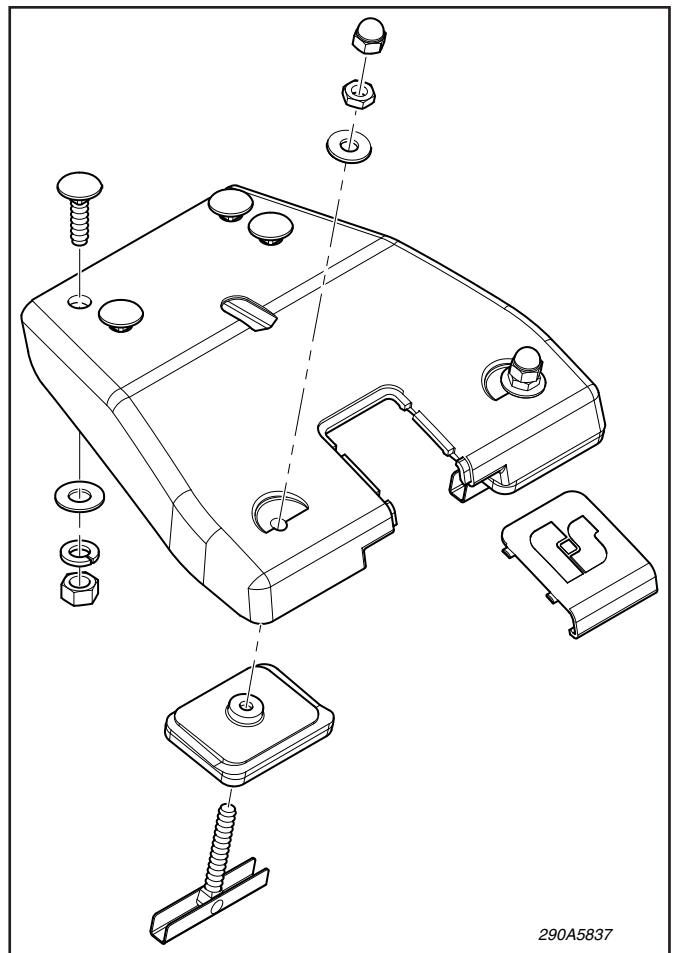

Figure 2.
G. See figures 2 and 3. Insert a toggle bolt in each of the four holes drilled in the previous step. Slide the appropriate rubber mounting pad over each bolt as it is installed. Use caution to avoid dropping the bolts through the holes before the rubber mounting pads are installed.